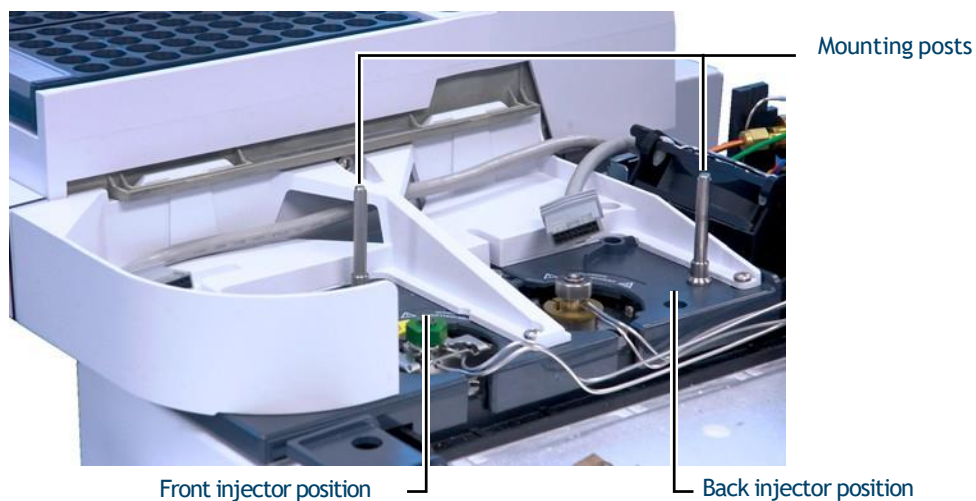

Figure 16. Installing the mounting post(s) on a 7890 Series GC (8890 GC and 8860 GC are similar)
- 8890 GC, 8860 GC, 7890 Series GC, 7820A GC, and 7820 MSD. Install into the inlet cover in the front or rear location, as desired. The post must be turned all the way down (Figure 16).